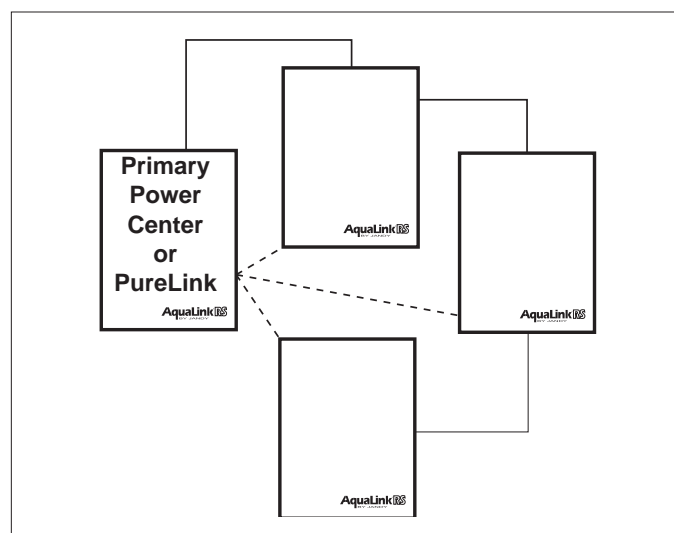

Figure 18. Wiring Multiple Power Centers
1. The auxiliary power centers may be wired "in series", starting from the Primary Power Center (solid line) or wired "in parallel" from the Primary Power Center (dashed line). See Figure 18.